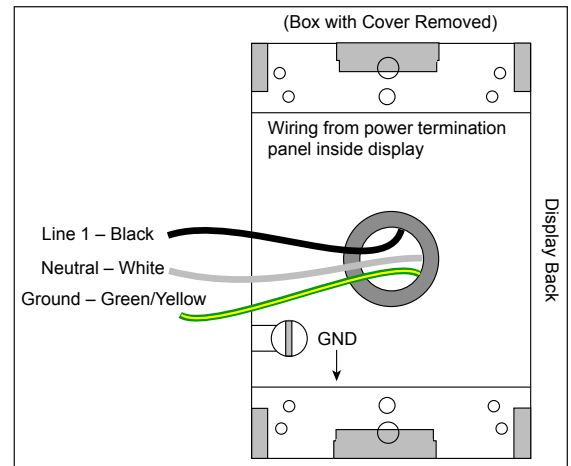

Figure 5: Power Termination Wiring
3. Inside the external power J-box, connect the power wires to the wires coming from the display interior using wire nuts. Refer to **Figure 5** for a diagram.